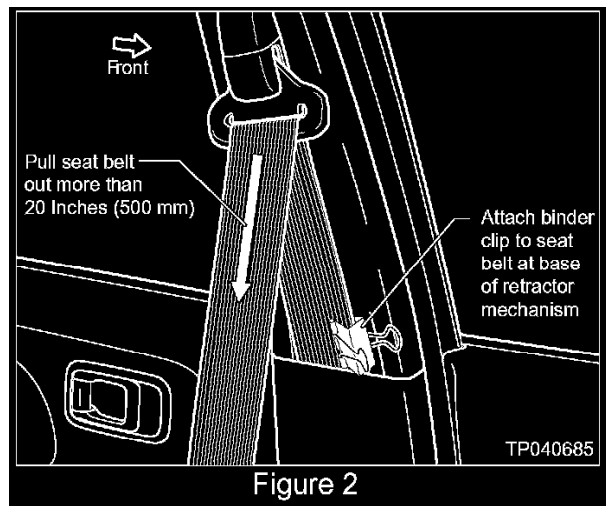

Figure 2
1. Pull the affected seat belt more than 20 inches (500 mm) out of the B pillar seat belt retractor mechanism (see Figure 2).
2. Attach a binder clip (or similar clamping device) to the seat belt at the base of the retractor mechanism to allow for slack in the seat belt (see Figure 2).